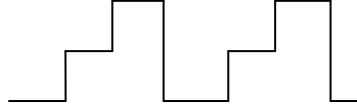

Figure 4-8 Step wave
- **Step:** Users have to set a value in the **Position** box, a value in the **Amplitude** box, a value in the **Period** box, a value in the **Phase** box, and a value in the **# of steps** box. A step wave in the range of the value in the **Position** box to the value in the **Position** box plus the value in the **Amplitude** box is generated. If the value in the **# of steps** box is 3, the step wave generated will be as shown in figure 4-8.